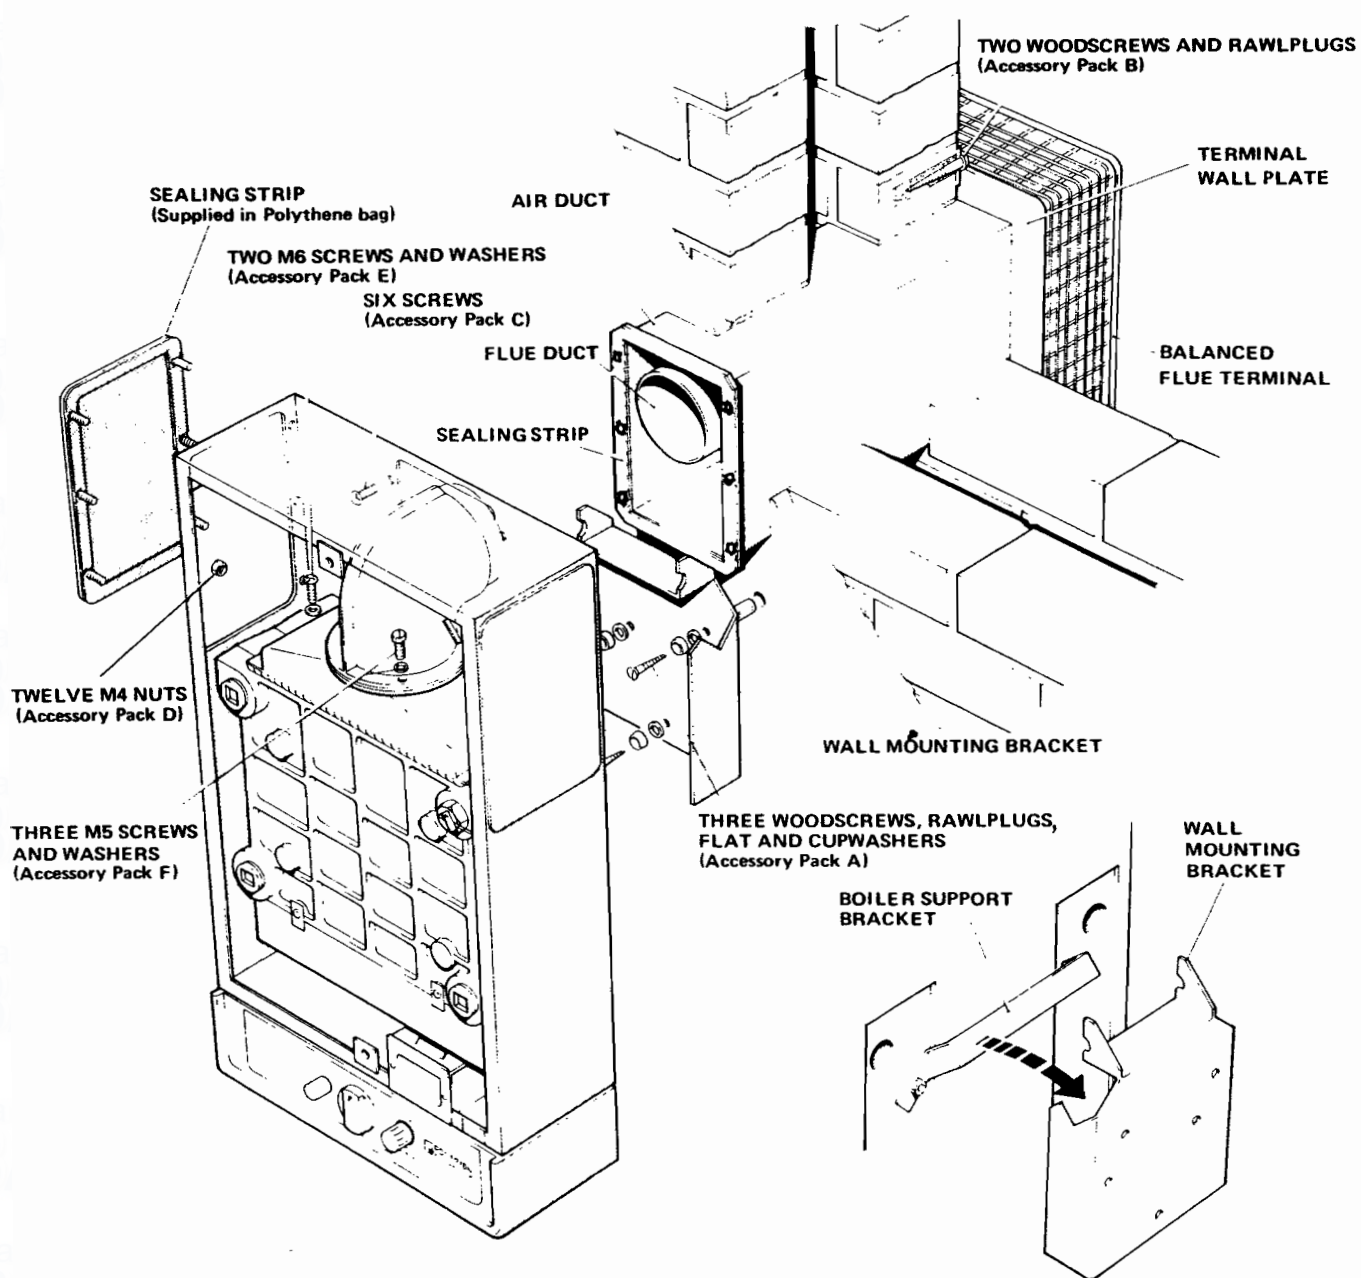

**Fig. 4 MOUNTING FEATURES – BALANCED FLUE MODEL**
A. With the boiler still on its back on the floor, on balanced flue models only, fit the sealing strip supplied all around the flange of the fresh air duct (positioned in the wall) where it will connect with the boiler and around the flanges of the two casing blanks. It will be necessary to make holes in the sealing tape to accommodate the securing screw (see Fig. 4). Fit the two blanks to blank off the two unused duct openings in the boiler casing, securing each with six M4 nuts (Accessory Pack D).